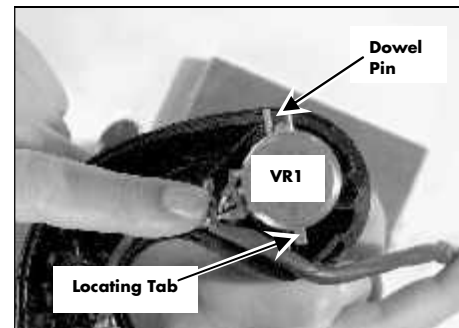

Figure 12: Travel Potentiometer orientation
- Make sure the locating tab on the travel potentiometer (VR1) is 180° from the dowel pin on the potentiometer positioner. See Figure 12.